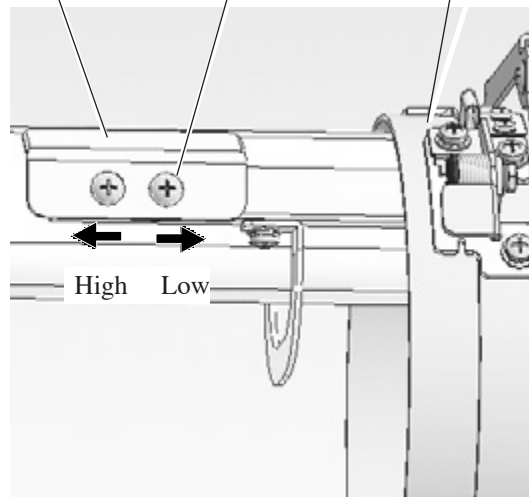

Fig. 4
Remove screws at left and right to adjust. (Fig. 4)
6. As shown in Fig. 4, tip the cap stretcher forward. Clip the back of the cap in two places by stretching the crease out as shown by the arrows.